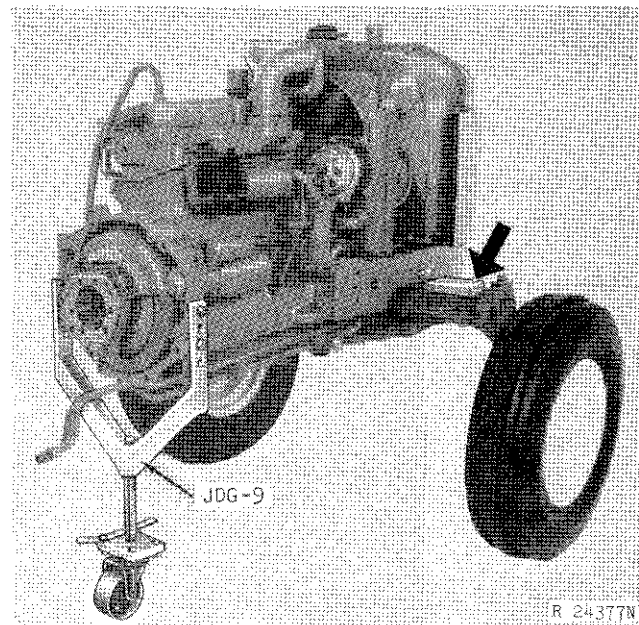

Fig. 8-Engine Separated from Clutch Housing
**CAUTION:** Install a wooden block between front axle and engine front support on both sides of tractor (Arrow, Fig. 8).
Roll front section of tractor away from clutch housing (Fig. 8).